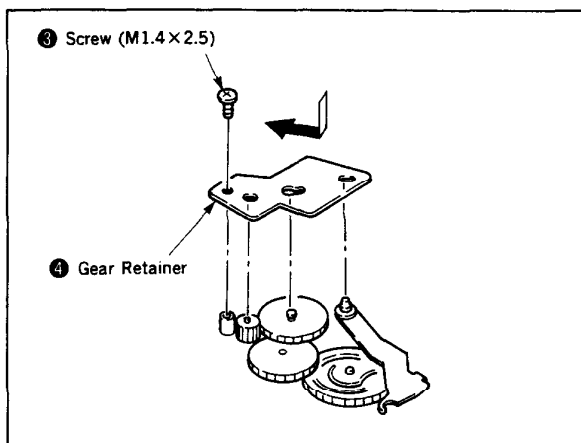

Fig. 36
- 9) Put the gear retainer ⑤ in place, slide it in an arrow direction and fix it with the screw ⑥. (Fig. 36)